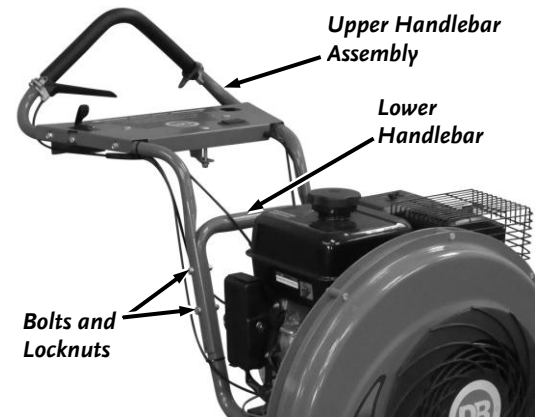

Figure 4
1. Pull the Upper Handlebar Assembly from its shipped location and position the Upper Handlebar Assembly onto the Lower Handlebar (Figure 4).